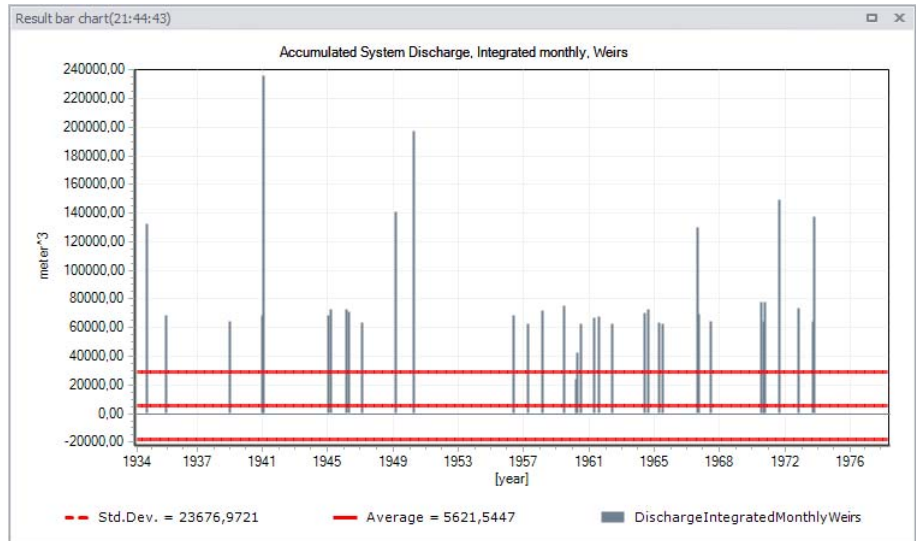

Figure 20.62 Example bar chart plot of monthly weir overflow volumes from LTS chronological statistics results
- Click on the ‘OK’ button to create a new bar chart plot. An example is shown in Figure 20.62.